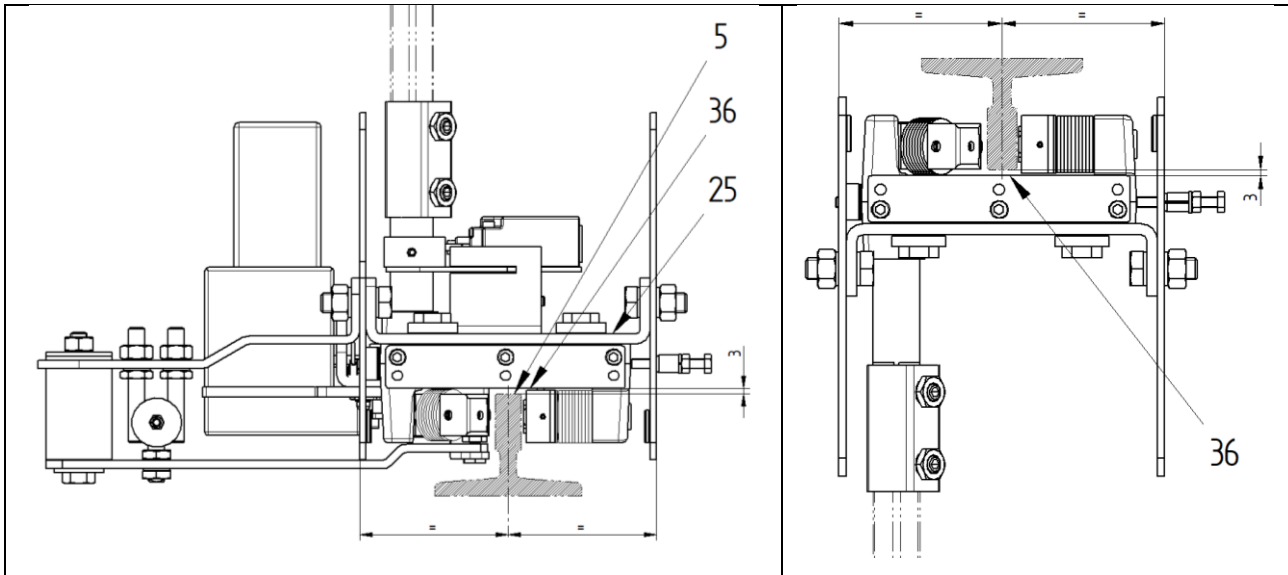

Figure 5: Positioning the guide rail (item 5) central to the mounting plate (item 25) and front gap of 3 mm to the emergency guide (item 36)
The guide rail (item 5) must be exactly central to the mounting plate (item 25) in order to be able to ensure that the required lateral movement of the electrically-triggered safety gear is sufficient (figure 5). Any screw connections or other components must not impair the required lateral movement and deflection of the moving parts during a braking process on the electrically-triggered safety gear. Depending on the position of the REA release unit, an emergency guide (item 36) is installed on the bottom or top of both safety gear heads (item 12), which must have a gap of 3 mm to the rail front surface (continuously from the shaft pit to the shaft head). This ensures that the